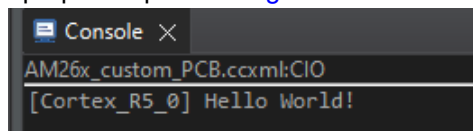

Figure 6-7. Hello World Console Output
- Observe the console output. The proper output is in Figure 6-7.